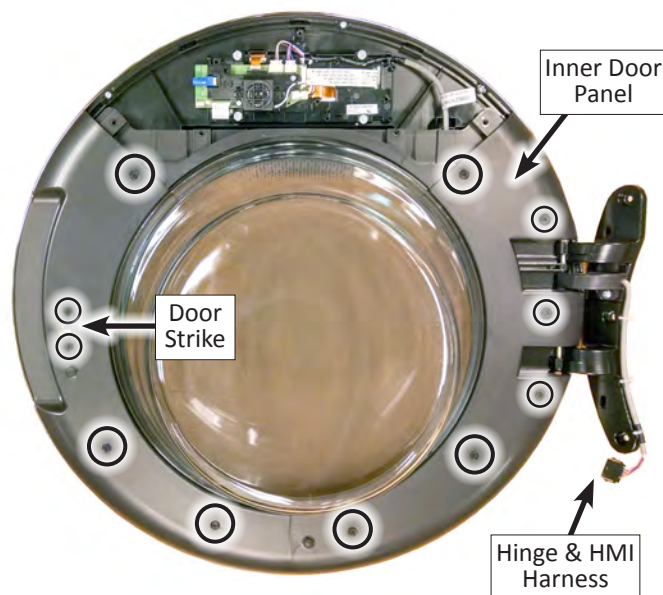

Figure 3
5. Using a Phillips screwdriver, remove the six (6) “lower” inner door screws, the two (2) catch screws, and the three (3) hinge screws indicated in Figure 3. Remove “lower” inner door panel and set aside for reassembly.